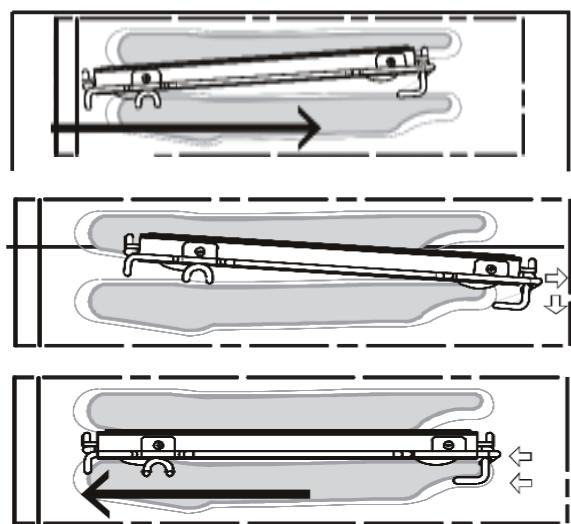

Fig 5
**To replace an extendable rack (See Fig. 5):**